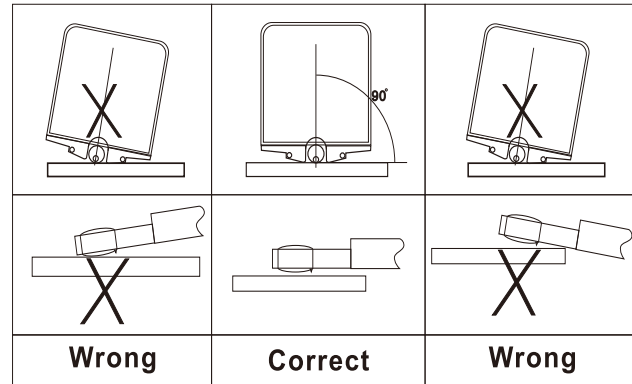
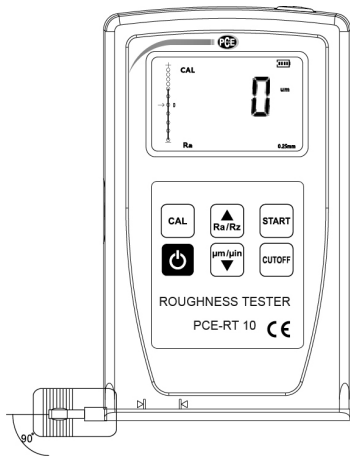

Fig.4-1
Fig.4-2
G. Refer to Figure 4-1 and Figure 4-2 to place the instrument correctly, stably and reliably on the surface to be measured.
H. Refer to Figure 4-2, the sliding trail of the sensor must be vertical to the direction of process line of the measured surface.